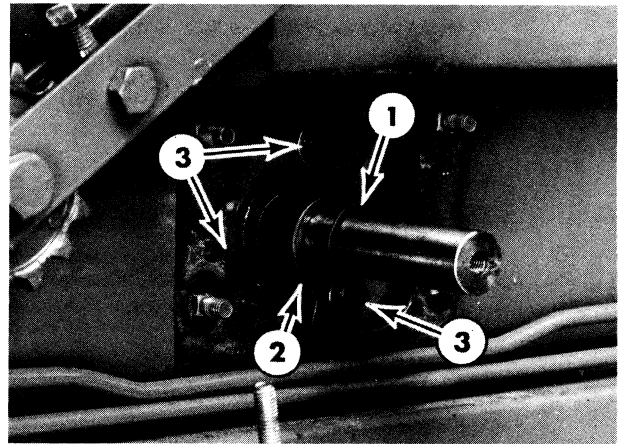

Figure 9-51
9. Rotate the pivot roll and make sure the roll does not rub the sledge frame at any point. If rubbing occurs, remove or add shims between the two left bearings at 1, Figure 9-51.